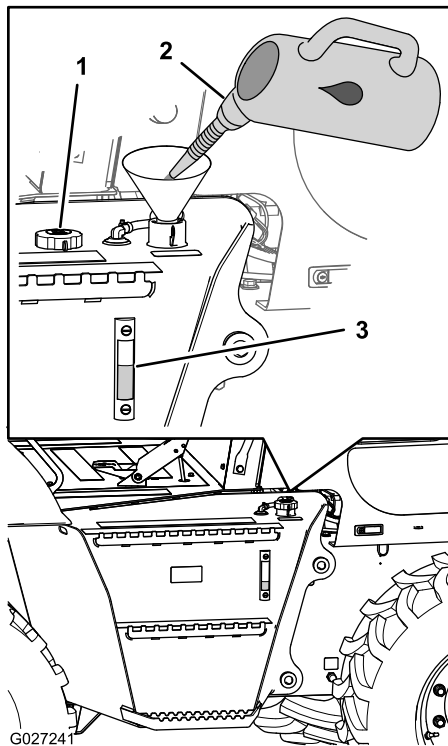

Figure 27
3. Check the hydraulic-fluid level in the sight glass located at the side of the hydraulic reservoir (Figure 27).
4. If the hydraulic-fluid level is not visible in the sight glass, remove the fill cap (Figure 27), add the specified hydraulic fluid until the fluid level is at the midpoint of the sight glass, and install the fill cap.